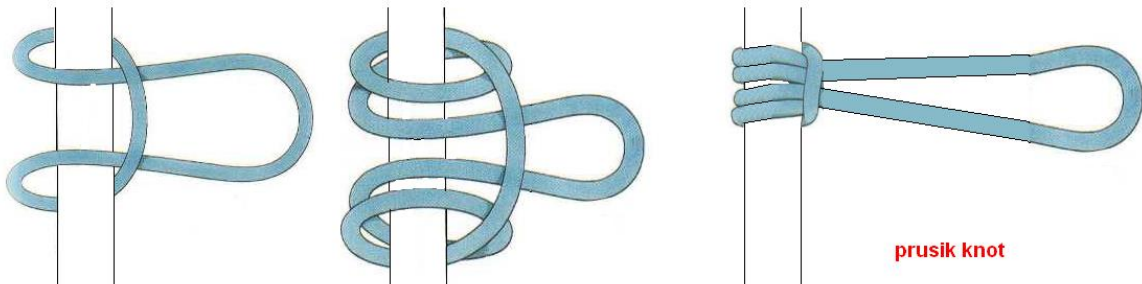

Fig 2
- 3 install the Prussik knot around the kernmental tree lanyard (fig 2)